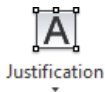

FIGURE 8.57: The company contact information placed within the title block before modifying formatting
Figure 8.57 shows some sample text for these entries.
5. Click anywhere outside the text box, or click the Close Text Editor button on the contextual Text Editor tab > Close panel. This closes the Multiline Text Editor and inserts your text into the drawing (see Figure 8.57).
Although the title-block box now includes the necessary contact information, it's likely not very legible. You may choose to do any number of things to make this text more legible: place greater emphasis on the company name or fix text-wrapping issues such as the City, State, Zip text seen in Figure 8.57. Thanks to the additional formatting options that multiline text provides, each of these modifications are easily applied: